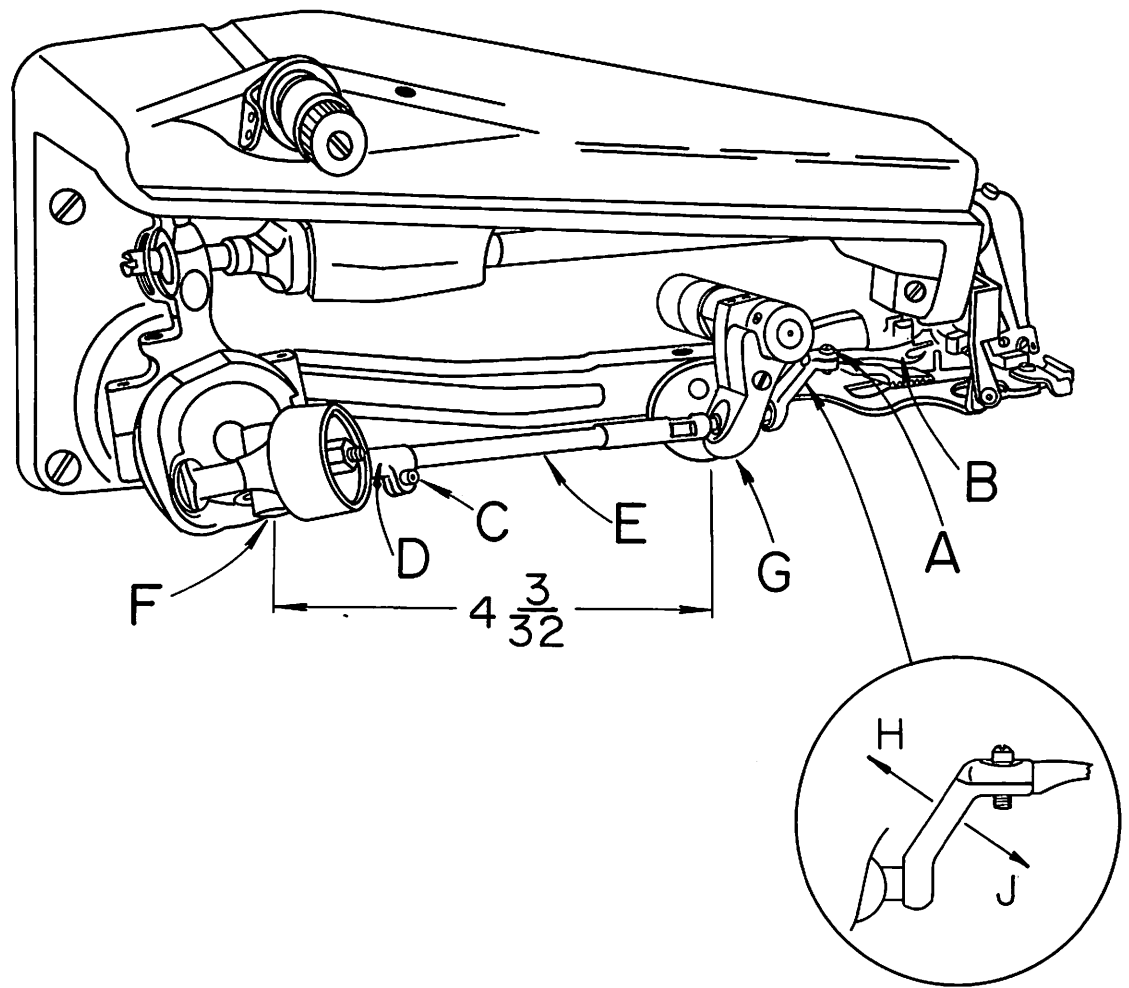

FIGURE 6
1. Should it become necessary to replace the looper (item "B" in Figure 6), loosen the looper clamp screw (item "A" in Figure 6) and remove the old looper. Because of the precise fit of the looper in the looper rod it may be necessary to exert a moderate amount of force to pull the looper out. Insert the new looper into the end of the rod as far as it will go before bottoming on the looper shoulder.
3. To adjust the looper so that the timing checks out as noted in paragraph 2, it may be rotated within its clamp by a limited amount. This adjustment should be made with the looper clamp screw (item "A" in Figure 6) loosened, and the looper bottomed against its shoulder. Do not move the looper in or out, and do not attempt to force the looper to turn beyond the limited amount of travel available.
4. If the adjustment described in paragraph 3 is insufficient to provide the correct timing, it will be necessary to turn the looper rod (item "E" in Figure 6) itself. This may be accomplished by loosening with looper rod clamp screw (item "C" in Figure 6). The rod is then free to turn in the looper rod fork (item "D" in Figure 6). It will normally be necessary to make only a very small adjustment in order to get the looper into the correct rotational position for proper timing. If, for any reason, the rod has been removed or the basic setting of the looper rod has been disturbed by a large amount, it may be reset by noting that the distance from the center of the looper rod fork pin (item "F" in Figure 6) to the rear face of the looper rod ball (item "G" in Figure 6) is normally $4 \frac{3}{32}$ inches (104mm) (refer to Figure 6). If the rod is set to this dimension then only minor adjustment will be required to bring the looper into the correct timing position. Note that this dimension is merely a guide to assist in setting a rod and variations may be expected from machine to machine.
For adjustment, refer to insert illustration (Figure 6). To widen looper sweep, flex or bend looper crank in direction of arrow "H".